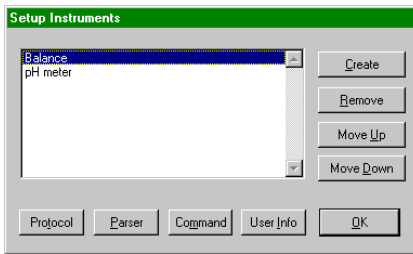
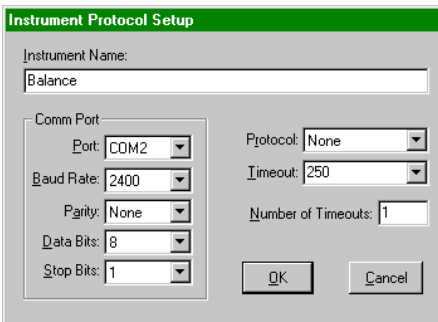
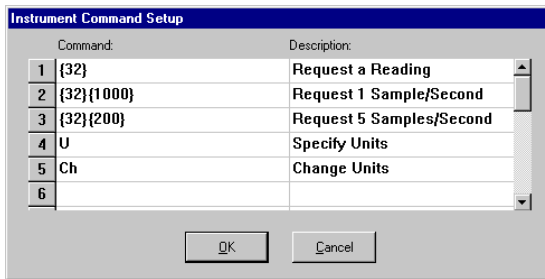

Figure 2.2: Setup Instruments dialog box
Figure 2.3: Define the instrument protocol
Figure 2.4: Define the instrument commands
2. Select the **I**nstrument sub-menu item. The [Setup Instruments] dialog box similar to the one shown in Figure 2.2 will appear. (Please note the listed instruments are examples only.)
Click on the '*Create*' button. You will advance to the [Instrument Protocol Setup] dialog box as shown in Figure 2.3.
Once you have completed your entries to the [Instrument Protocol Setup] dialog box (see Figure 2.3, Page 10), click on the ‘**OK**’ button to save the configuration. Selecting ‘**OK**’ will return the [Setup Instruments] dialog box (see Figure 2.2, Page 10), with the name of the created instrument listed and highlighted.
If your instrument requires a command from the computer, click on the **'Command'** button located along the bottom of the [Setup Instruments] dialog box (see Figure 2.2, Page 10) to open the [Instrument Command Setup] dialog box, shown in Figure 2.4.